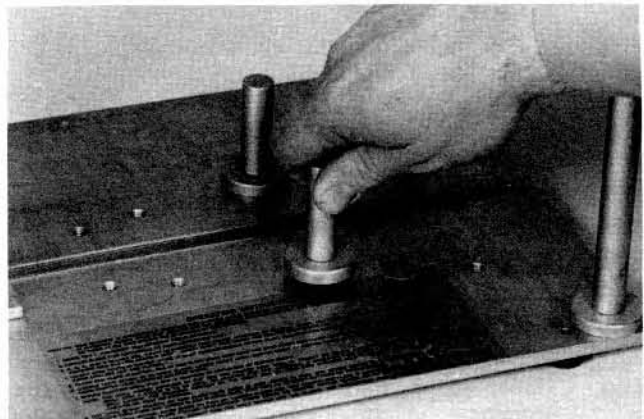

Figure 6
5.03 Insert stop-posts in tapped holes in base of cutter corresponding to end plate diameter and hand tighten firmly. Figure 6.